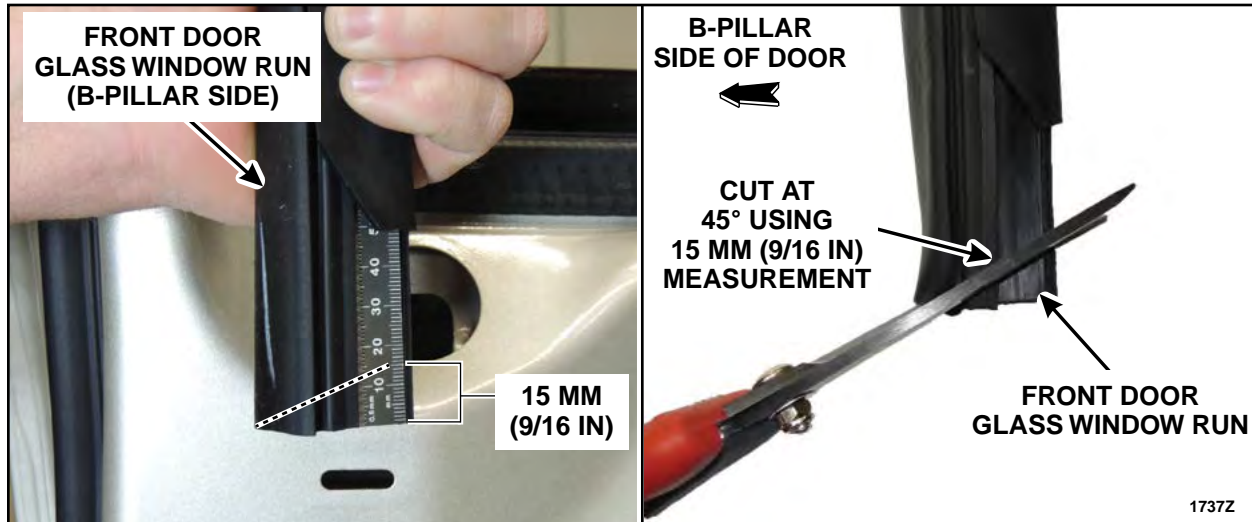

FIGURE 22
10. Modify the front door glass top run. See Figure 22.